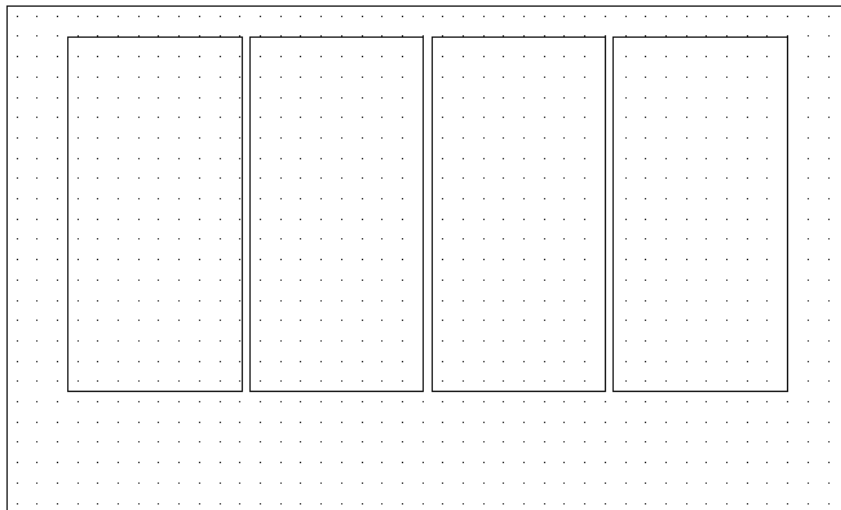

Figure 4-62
6. This small orchard is divided into blocks 330ft (100m) x 700ft (210m). Draw a *3-point Rectangle* in the same manner as above, so the smaller rectangle is inside the larger one. Start the top right corner of this rectangle 120ft (36m) (6 grid points) from the right boundary and 60ft (18m) (3 grid points) from the top boundary. Notice that only every 2nd grid point along the X-axis is shown at this zoom. Type **330,<180 (100,<180)** for the width and **700 (210)** for the length of the rectangle. Select the
- rectangle, then select *Modify/Copy/Linear* and enter **3**. Click **[OK]**. Select the top right corner as the reference point then drag the 3 copies to the left until the left most copy is about 120ft (36m) (6 grid points) from the orchard left boundary, i.e. the 4 rectangles are evenly spaced across as in Figure 4-62, and left click. The block rectangles are only 20-40ft (6-12m) apart. This distance between blocks represents a shelterbelt; the grid represents tree spacing within the block.